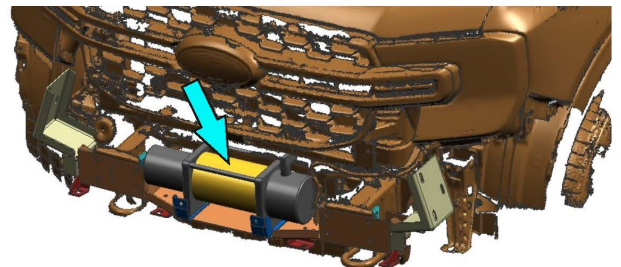

Fig.48
48. Fix winch on winch fairlead brackets (fig. 48.)